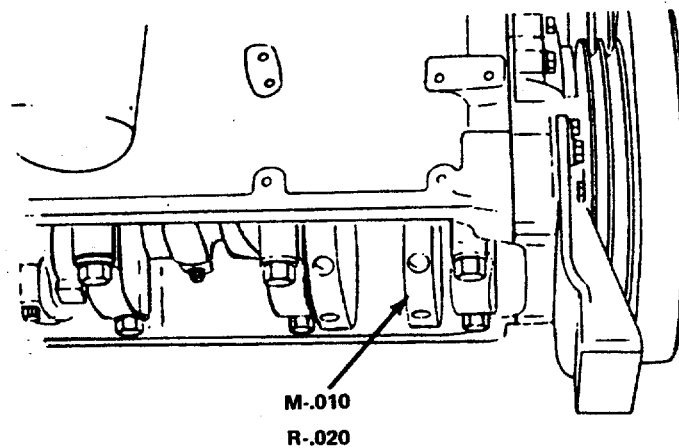

FIGURE 4-33. Counterweight Markings for Bearing Sizes.
- Bearing shells (12) are available for crankshafts which are 0.010 inch (0.25 mm), 0.020 inch (0.51 mm), 0.030 inch (0.76 mm), or 0.040 inch (1.02 mm) undersize. Crankshafts which are ground undersize in the connecting rod or the main bearing journals are marked on the front counter weight. If the crankshaft is marked, check the bearing shell to make sure the correct bearing size is used (FIGURE 4-33).